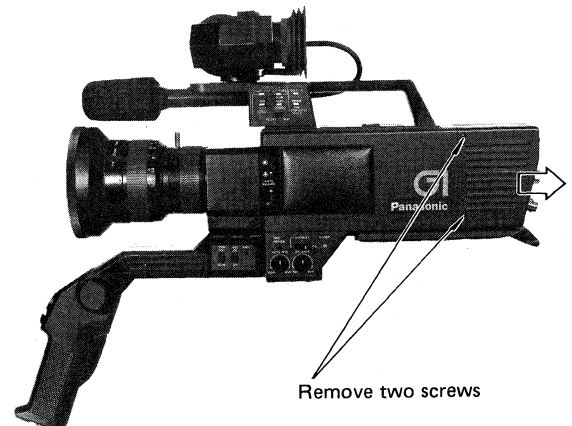

Fig. 2-1-1
- Remove two screws on left side cover holding the left side cover and remove the cover by sliding it backward. (Fig. 2-1-1)